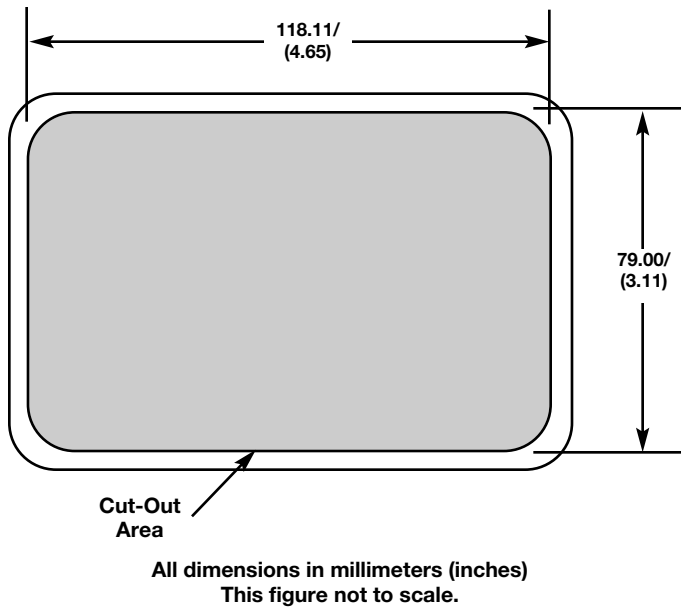

Figure 1. Flush Mount Template Illustration
- A. For flush mounting, choose a location in the dash of the vehicle. Cut the hole in the dash using the flush mount template illustration. See Figure 1.